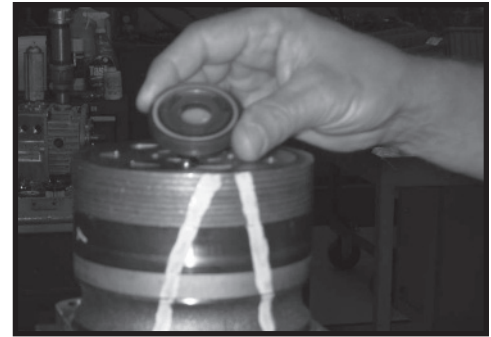

Figure 11
8. Remove commutator (5) and seal ring (3) Remove seal ring from commutator, using an air hose to blow air into ring groove until seal ring is lifted out and discard seal ring. Inspect commutator for cracks or burrs, wear, scoring, spalling or brinelling. If any of these conditions exist, replace commutator and commutator ring as a matched set. SEE FIGURE 11 & 12.